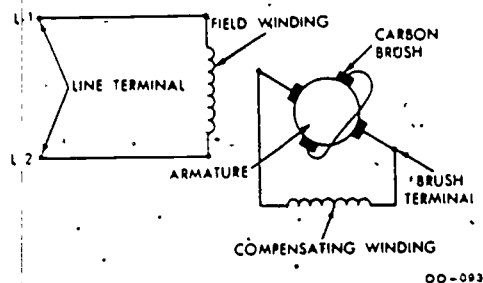

Figure 44. Schematic Wiring Diagram of a Single-Phase Repulsion-Induction Motor
**REPULSION-INDUCTION MOTOR.** The repulsion-induction motor consists of a single concentric type stator, a combination rotor, a commutator, brushes, compensating windings and endbells. This type of motor has four carbon brushes, two being short-circuited together; the other two brushes are in series with the compensating windings. The compensating windings in this motor are used to improve the power factor of the motor and to reduce some of the sparking at the brushes. This motor does not have a centrifugal switch or device but instead has a squirrel-cage winding on its rotor in addition to a wound rotor. Rotors of this type are called combination rotors. The squirrel-cage winding is placed underneath the wound rotor section and is so constructed as to have high-inductive reactance. At low speeds, very little current flows in the squirrel-cage windings and the motor starts as a repulsion motor. When the motor reaches operating speed, the frequency of the induced rotor currents is low, so that current flows more in the squirrel-cage winding and the motor operates as an induction motor. This motor has the operating characteristics of high starting torque with a low current draw and a constant running speed under load. The major disadvantage of this motor is that the brushes remain on the commutator, causing arcing, thus increased maintenance. The repulsion-induction motor shown in figure 44 is made in sizes up to 10 horsepower and is used to power such loads as printing presses, textile machines, and laundry extractors. To reverse the direction of rotation the brushes must be shifted past the neutral plane.